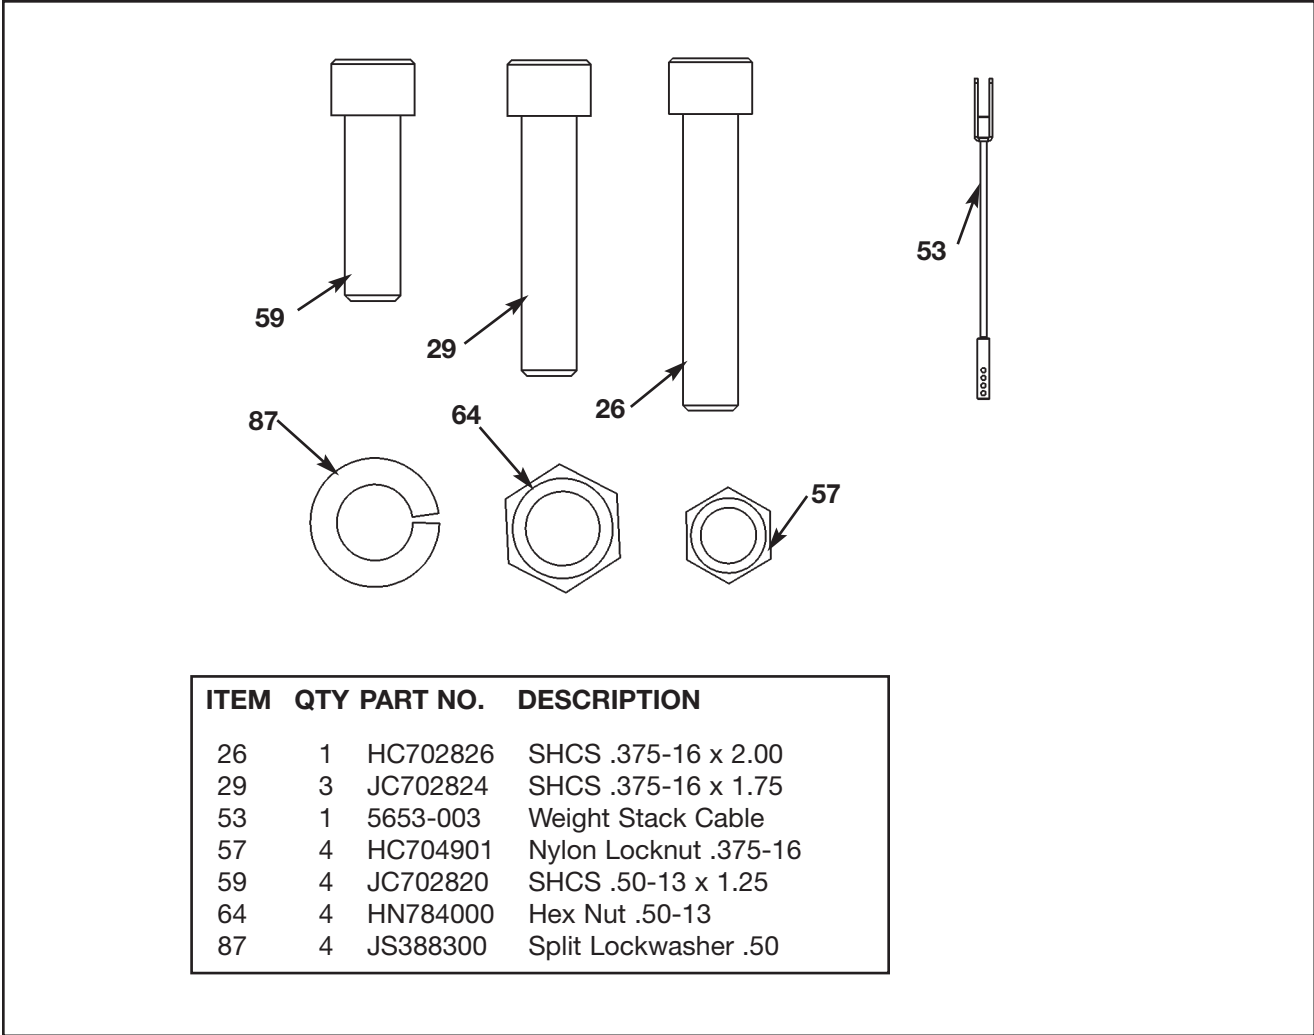

Figure 7
- D. For Tandem and Modular configurations, locate four SHCS .50-13 x 1.25 (#59), four split lockwashers .50 (#87) and four hex nuts .50-13 (#64). See Figure 7 (hardware pack).